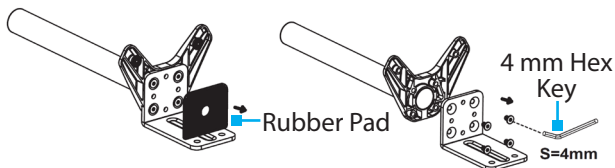

Figure 3
5. Remove the **Rubber Pad**, located at the base of the **Desk Clamp**. (Figure 3)